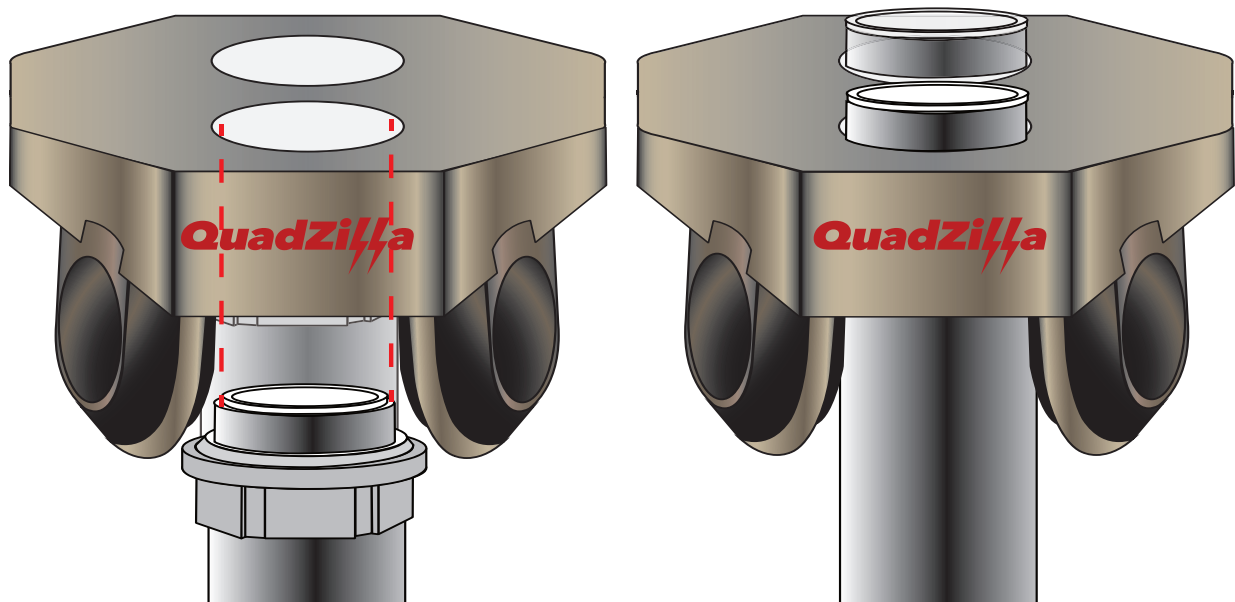

Figure 7. Attaching the QuadZilla Cable Management Assembly Onto the Pole
12. (Optional) Slide a cable management assembly onto each side of the Y pipe and rest it on top of the Myers hub (Figure 7).